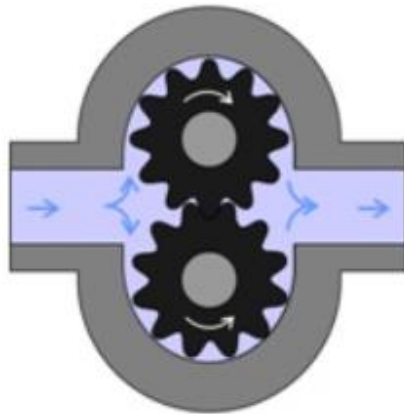

Fig.3.1 - External gear pump
- ▶ The external gear pump consists of externally meshed two gears housed in a pump case as shown in figure 3.1 one of the gears is coupled with a prime mover and is called driving gear and another is called driven gear.